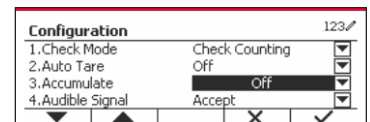

Figure 61
2. Select the list item and press the softkey corresponding to the  icon, to change setting. (See Figure 61)